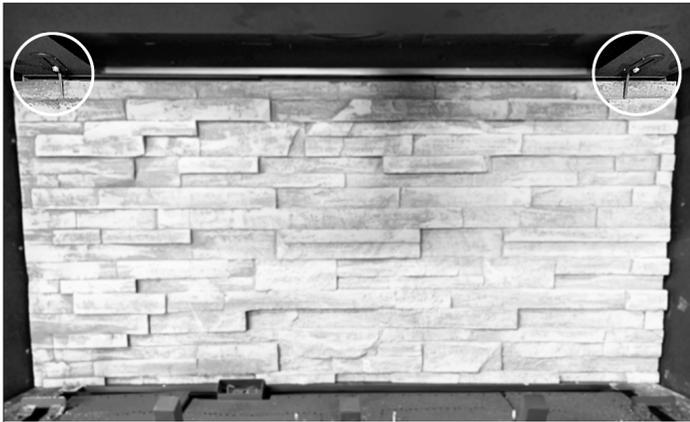

Figure 8.3, Back Refractory Panel Installed
1. Install back refractory panel. Secure with panel clips previously bent. See Figure 8.3.